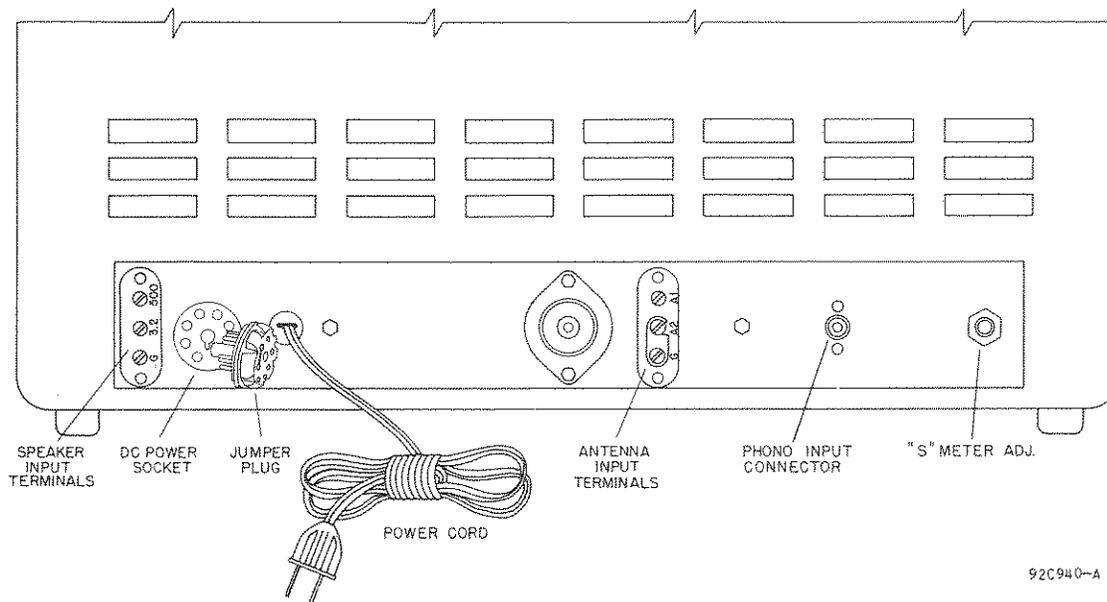

FIG. 2. REAR VIEW
**NOTE:** The receiver will not operate from an AC source unless the JUMPER PLUG is inserted in the DC POWER SOCKET. See Fig. 2.
**REMOTE RECEIVE / STANDBY SWITCH CONNECTION** - The receiver may be disabled remotely by connecting a remote spst switch between pins 1 and 4 of the JUMPER PLUG (see Fig. 2). To operate the receiver remotely, set the RECEIVE/STANDBY switch, located on the front panel of the receiver, to the STANDBY position. The receiver can then be placed in RECEIVE or STANDBY operation with the remote switch.